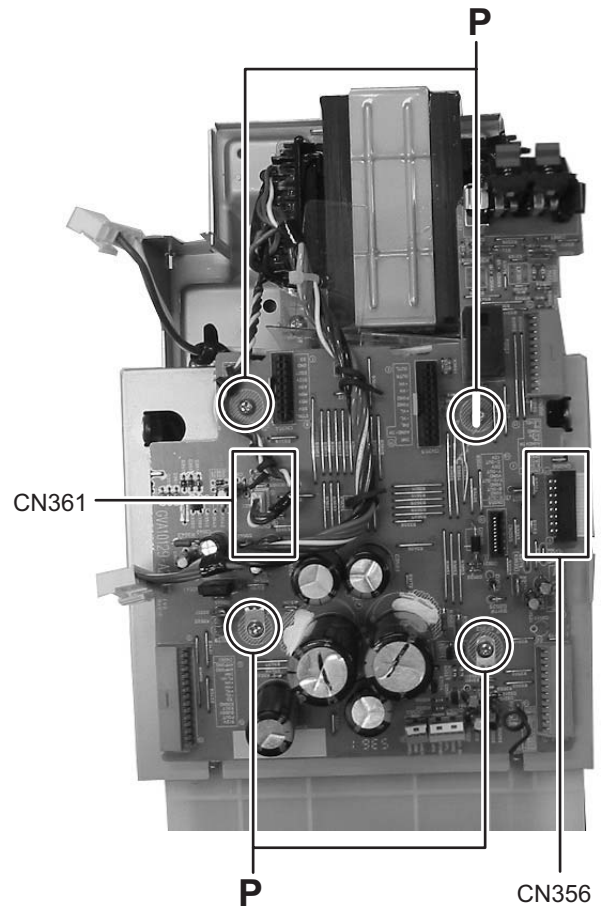

Fig.15
3.1.12 Removing the regulator board (Fig.15)